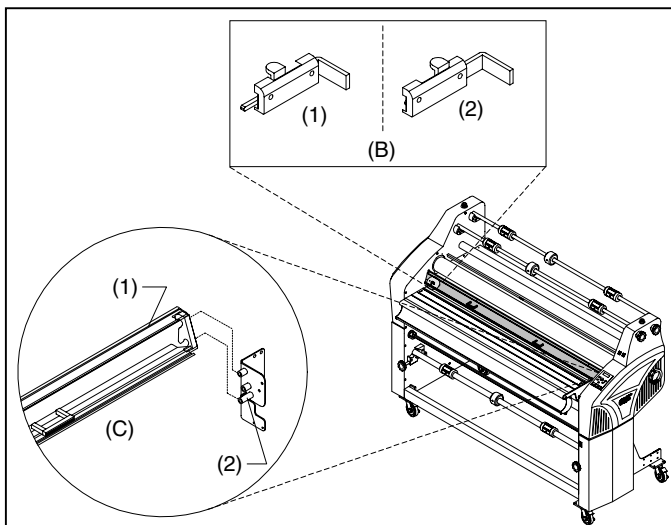

Fig. 14
**B. SAFETY SHIELD INTERLOCK LATCH:** (Figure 14) Used to lock the safety shield into position and activate an interlock switch. The interlock latch is located on the left side of the safety shield. When pushed to the full left (1), the safety shield is locked. When pushed to the full right (2), the safety shield is unlocked.
**C. SAFETY SHIELD:** (Figure 14) Prevents entanglement, entrapment and inadvertent contact with the heat rollers. **The laminator will operate only when the Safety Shield is located in the fully locked position.**